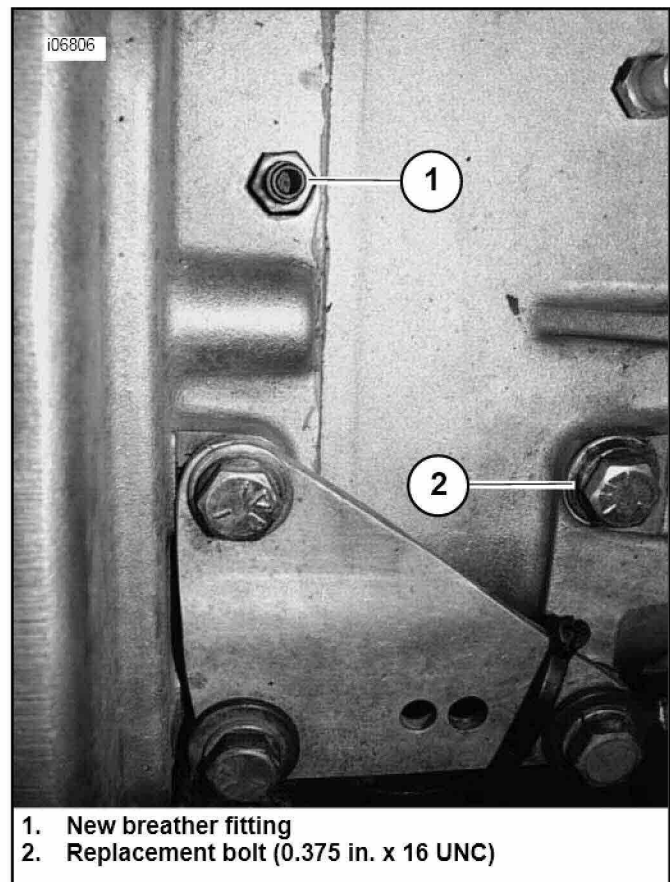

Figure 4. Breather Fitting Relocation
1. See Figure 4. In the right side case half, replace the previous vent screw (Part No. 34744-77) with a 0.375 in. X 16 UNC bolt (2).
2. Thread the breather fitting (1) into the newly drilled and tapped location and tighten to 80-100 **in-lbs** (9.0-11.3 Nm).